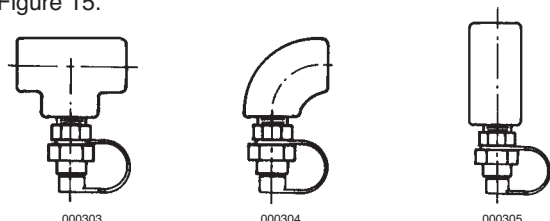

FIGURE 15
8. Make certain a blow-off cap is in place over each nozzle tip. These blow-off caps are designed to keep grease from building-up on the nozzle orifice and inhibiting the agent flow. See Figure 15.